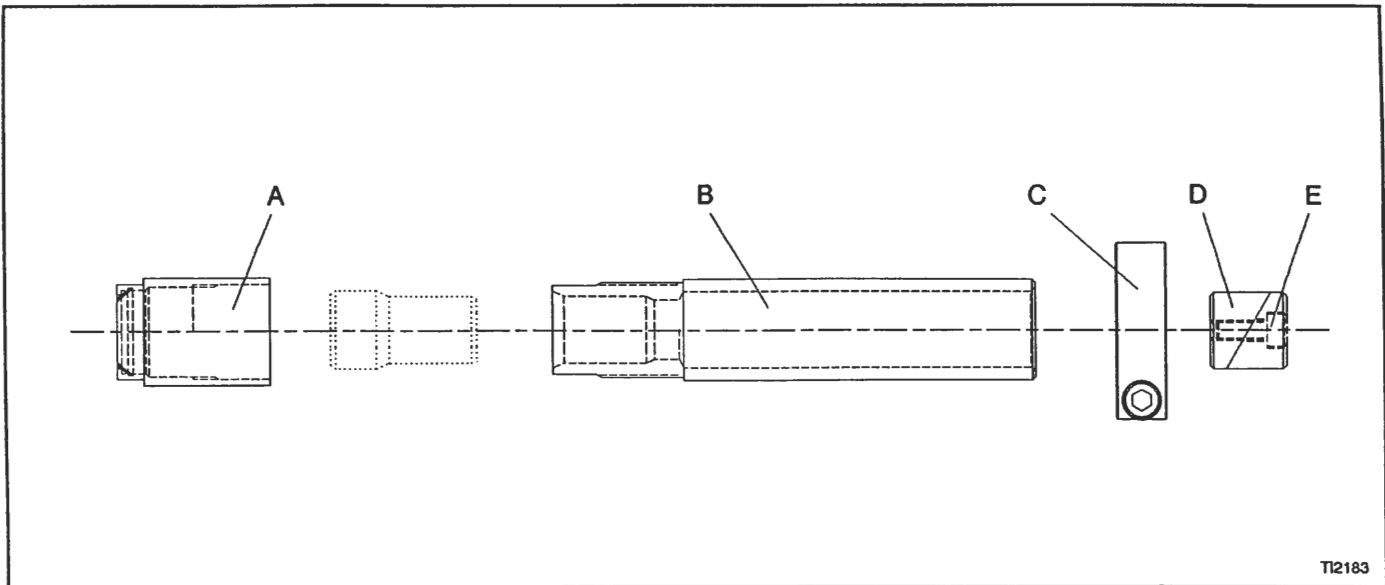

Figure 1 - Exploded View
Collet chuck stop "D", Figure 1, can be positioned as needed inside the body of the tool holder to provide a qualified location for the tooling to position against. When using qualified tooling with the collet chuck stop, the double-angle collet tool holder allows the machine operator to quickly replace worn tooling with minimal adjustment to the tool offsets. The collet chuck stop also helps prevent any possible rearward movement of the tool during machining operations.
Qualifying collar "C", Figure 1, can be positioned as needed on the outside of the body of the tool holder to provide a qualified surface for positioning the collet tool holder in a round shank tool holder mounted on the machine tool.
Front cap "A", Figure 1, is equipped with a bushing that compresses the collet when the front cap is tightened. If a collet is installed in the double-angle collet tool holder, DO NOT fully tighten the front cap unless a tool is installed in the collet.
1. Unthread and remove front cap "A", Figure 1.